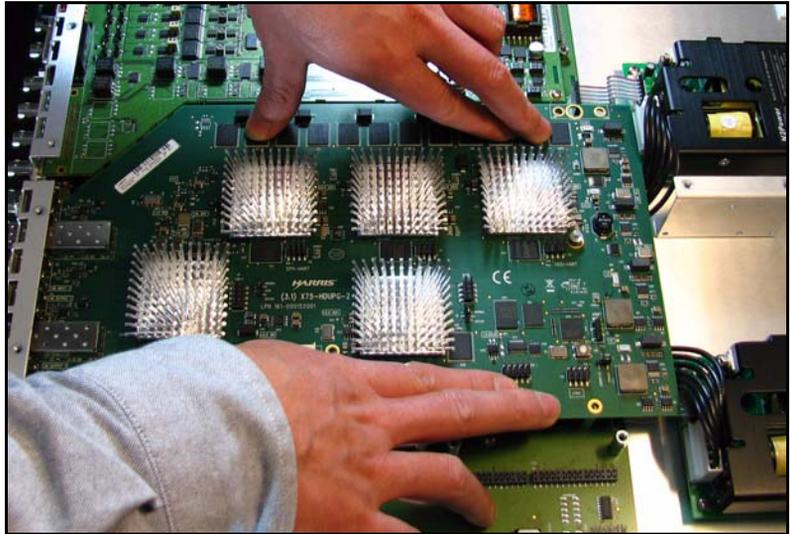

Figure C-20. Pushing the Module Onto the Main Board
Figure C-20 illustrates the area of the module you should push so that the stackers lock firmly into place.
7. Push the X85 module gently over the main board stacker connection points until they lock into place (Figure C-20).